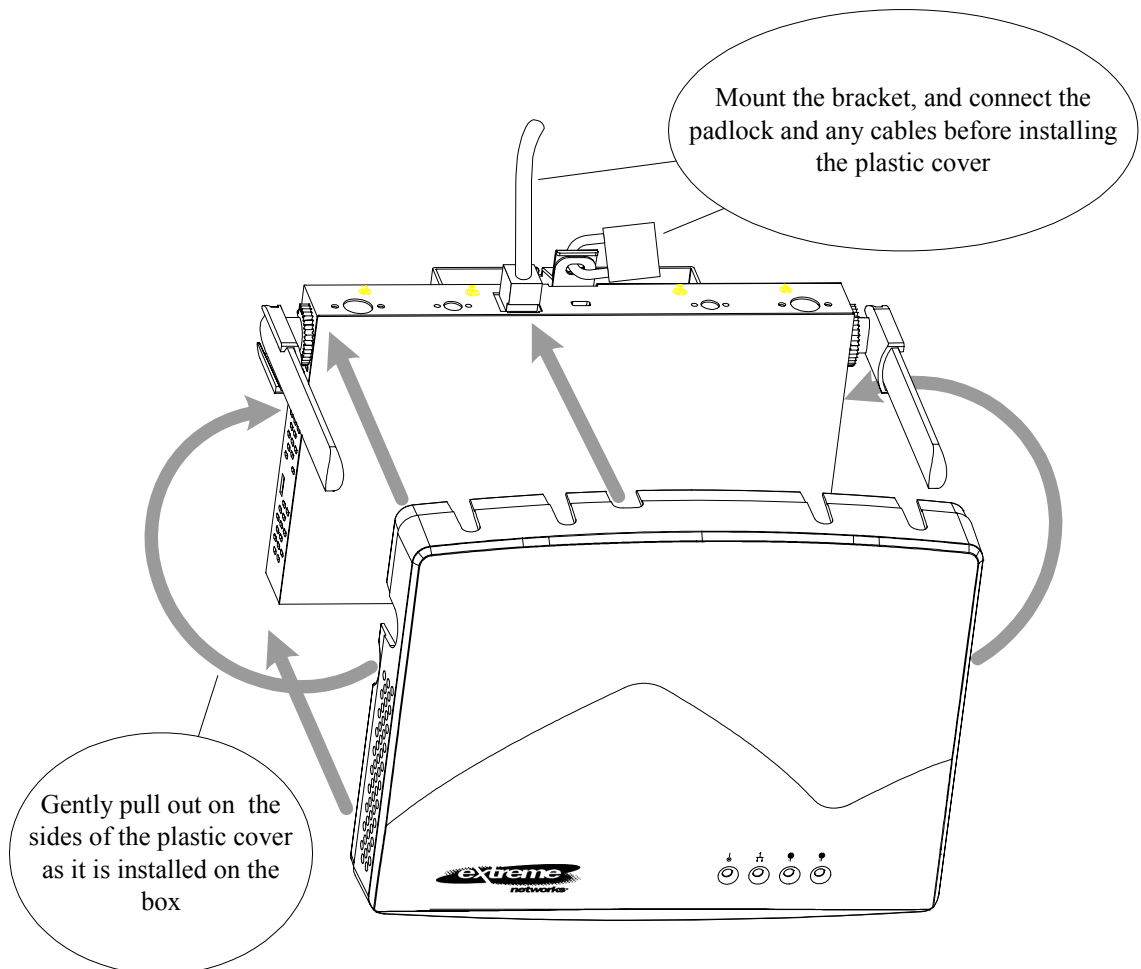

Figure 10: Plastic Cover Installation
- 10 Attach the plastic cover -Attach the optional plastic cover to the box, see Figure 10: Plastic Cover Installation on page 23. After the cover has been secured push on each antenna to make sure its shroud is locked in position. This ensures that the teeth on the shroud are engaged with the teeth on the cover.